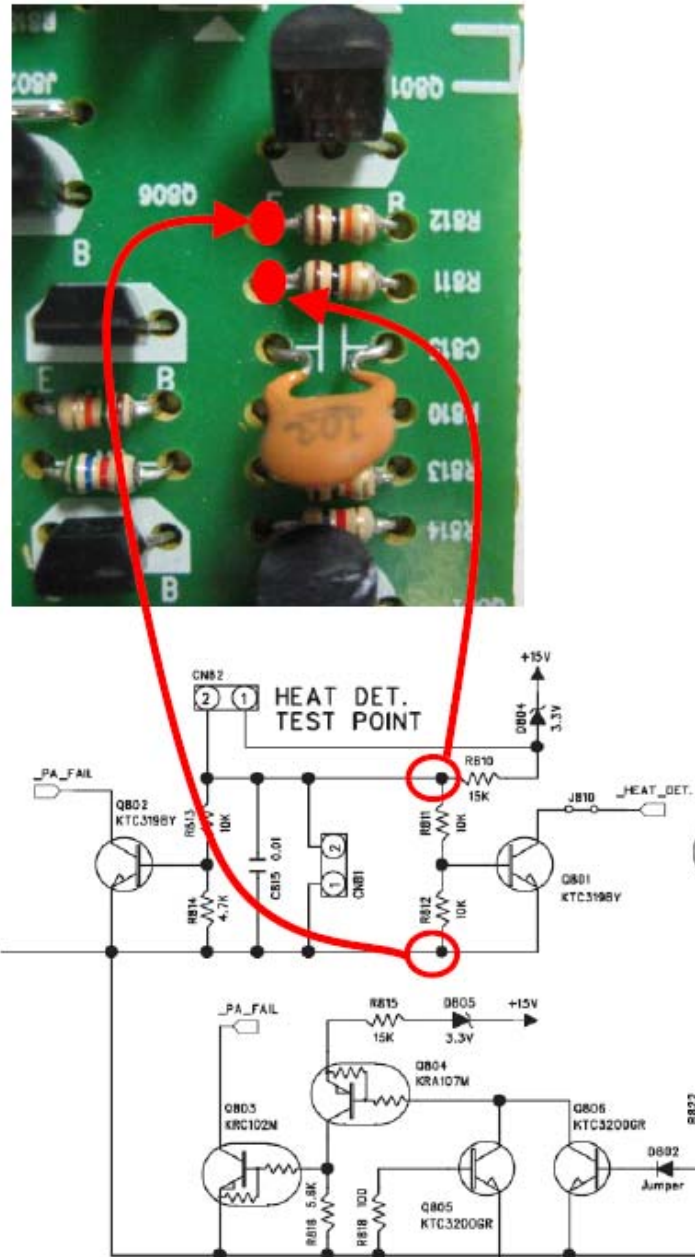

Fig. 3
**Note:** The Heat Sensor has no polarity however, be certain to connect the sensor to the side of each resistor that corresponds (electrically) to connector CN81's pins 1 & 2. Do not solder the leads to the side of resistors R811 and R812 that are closest to the base of transistor Q801. See Figure 3 for details.